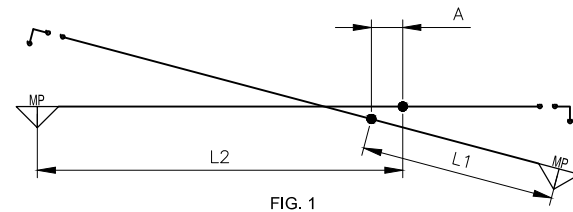

FIG. 1
1. EXPLANATION OF DISTANCE A WHEN THE CATENARIES HAVE THE FIXED POINT IN DIFFERENT DIRECTIONS. FIG. 1